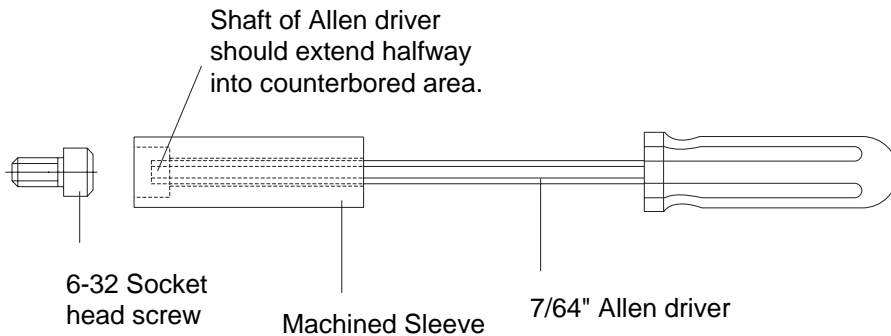

Figure 3-4. Correct arrangement of sleeve on shaft of Allen driver
- 4 Now you are ready to remove the screws that secure the crucible to the crucible mounting flange. To do so, use the special Allen tool provided with the source. This tool consists of a standard 7/64" Allen driver with a machined sleeve fitted over its shaft (see Figure 3-4). If you are not experienced using this tool, perform step 5 of this procedure. If you are already proficient at using the tool, skip step 5 and proceed to step 6.